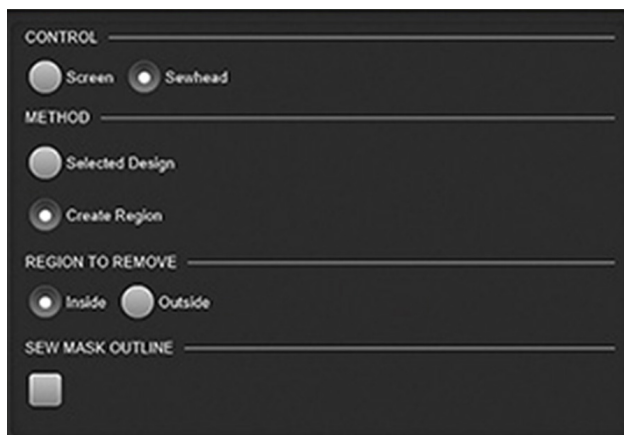

Fig. 20
3. Select the following settings (Fig. 20):